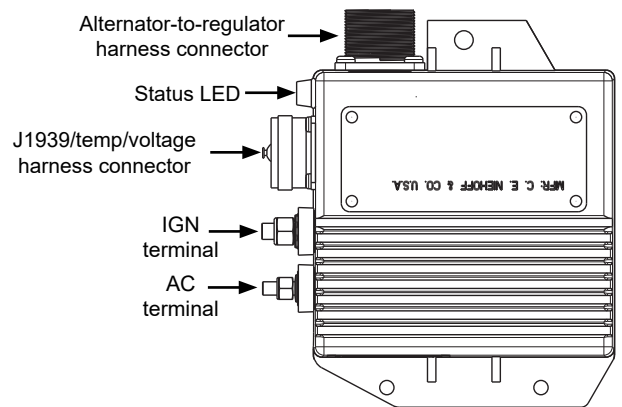

Figure 7: N3257 Regulator Connections
- If using a J1939/temperature-voltage sense harness, plug J1939 harness into J1939 receptacle on regulator. See Figure 7 for receptacle location. Refer to instructions included with harness for more information. Harness sold separately².